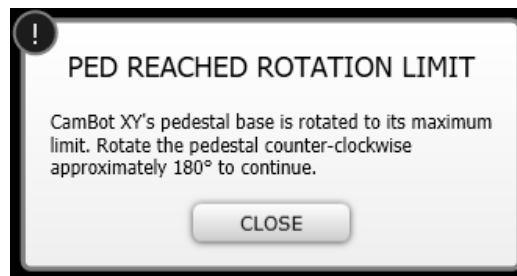

Figure 55 - CamBot or Artimo XY Pedestal Rotation Limit Dialog
- › reaching or exceeding pedestal orientation limits for XY pedestals prompt the following notification shown in Figure 55.